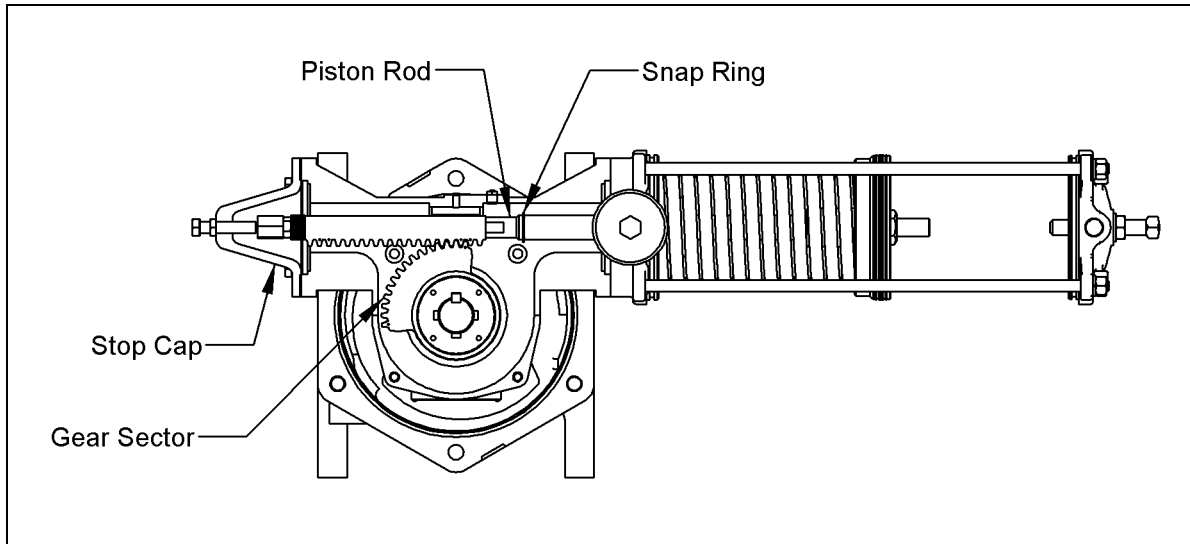

Figure 3 – Actuator Shown with Cylinder Pressurized
4. Pressurize the cylinder. Inspect the snap ring (C17) on the end of the piston rod (C14). See Figure 3.